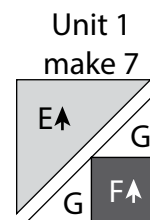

Fig. 2
- Sew (2) 3 7/8" Fabric G triangles to adjacent sides of (1) 3 1/2" Fabric F square. Sew (1) 6 7/8" Fabric E triangle to the long side of the newly sewn triangle to make (1) 6 1/2" Unit 1 square (Fig. 2). Repeat to make (7) Unit 1 squares total.